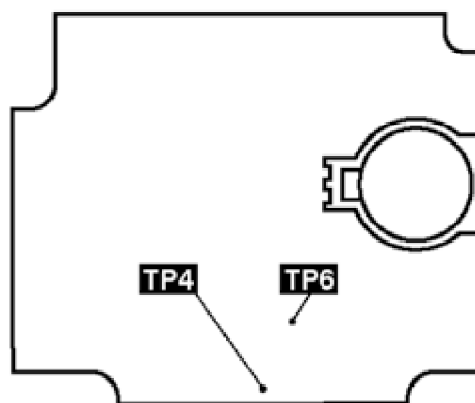
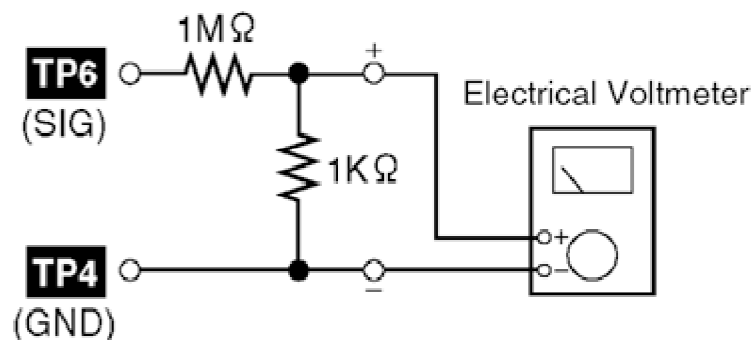

Fig. 9
Fig. 14
1. Connect an electrical voltmeter. (Cf. Fig. 9) (Cf. Fig. 14)